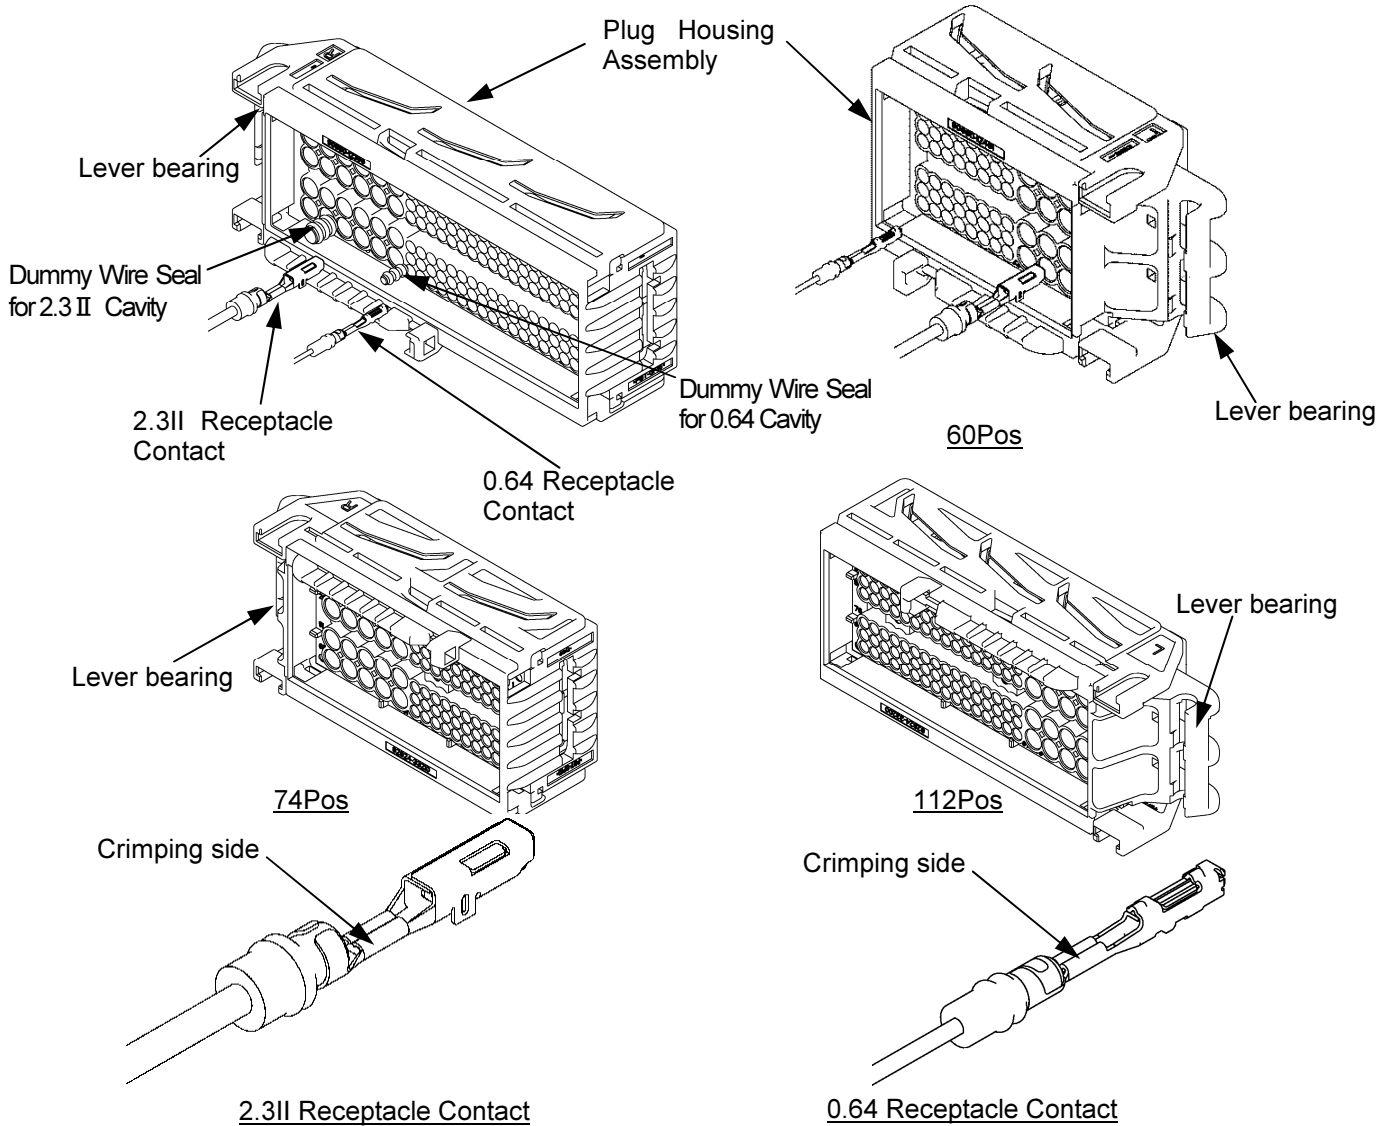

Fig.17
- (4) 79/89/126 pos turn the lever bearing to left as shown in Fig.17, and 60 pos insert the crimping side of 0.64/2.3II Receptacle terminal with the lever bearing turned to right and insert terminal into the housing.